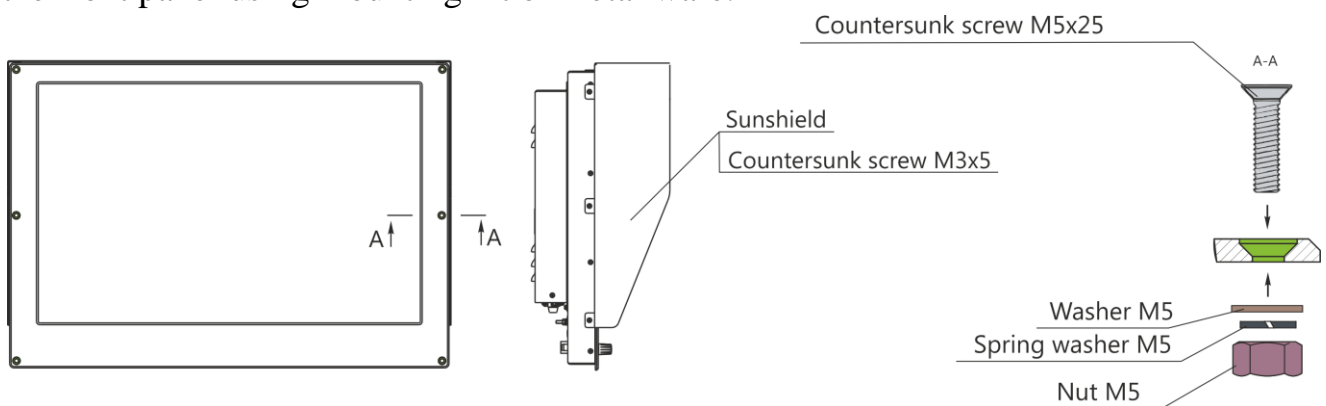

Figure 3 – Panel mounting with outer fastenings
The Product enables different types of mounting depending on the order. For all types of mounting a sunshield is mounted using screws delivered in the mounting kit. For desk-top or wall mounting of the Products with the diagonal more than 21" vibration isolators are provided. Types of mounting are shown in Figures 3 – 7.
1) Panel mounting with outer fastenings (see Figure 3) ensures fastening from the front panel using mounting kit of metal ware.